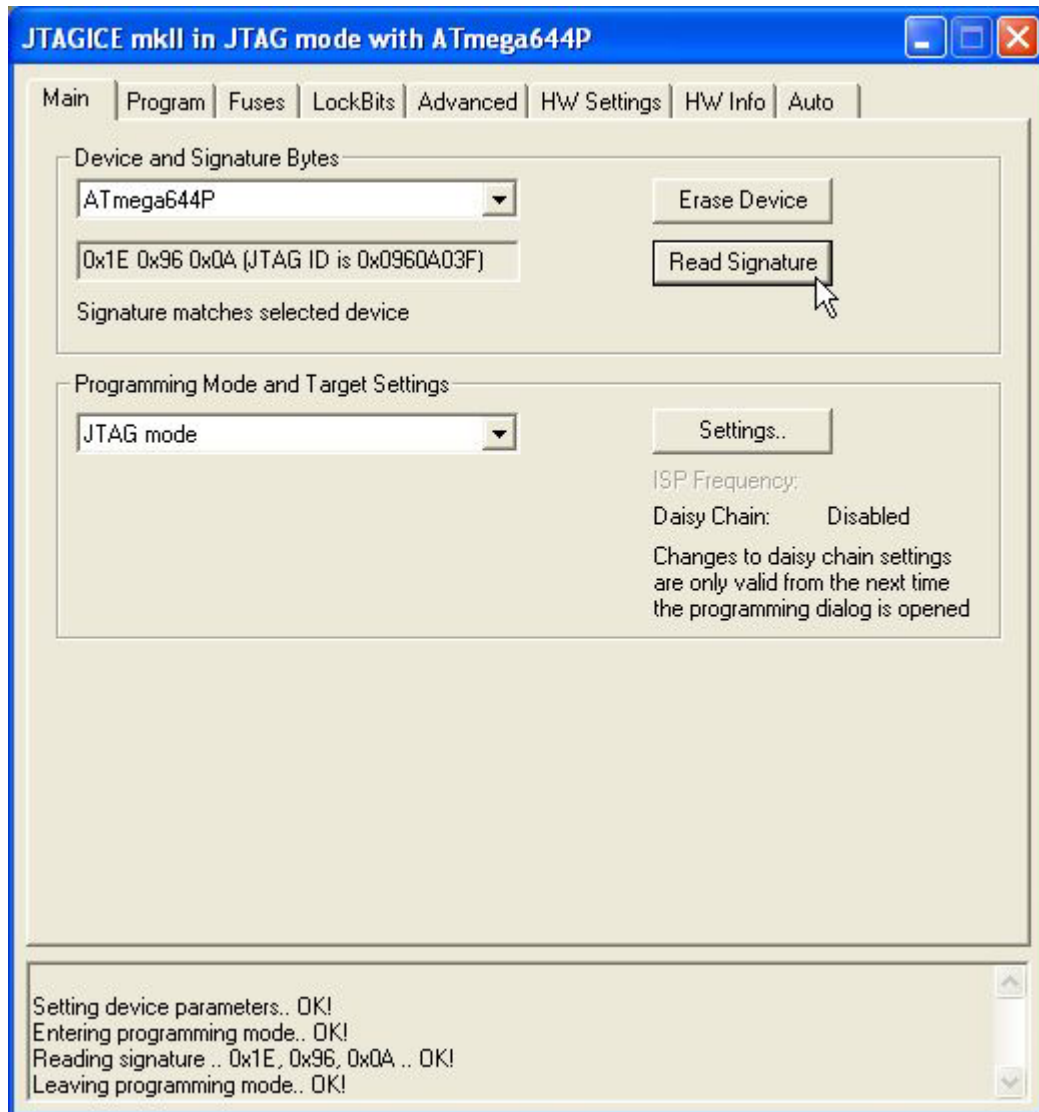

FIGURE D18: AVR STUDIO SETTINGS FOR JTAGICE MK II
- j) In the *Main* window below, select the *AT mega644P* microcontroller and *JTAG mode* connection and push the bottom *read signature* in order to verify that the programmer is working properly, as it is shown in the figure D18.